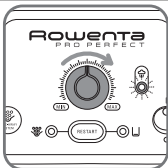

fig.6
- Flashing green light - **fig.6** : the water is heating up in the boiler.